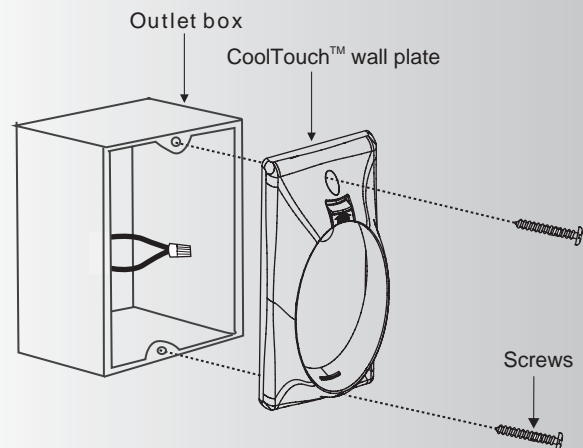

Fig. 25
Step 2. Install the CoolTouch™ wall plate to the existing wall outlet box with 2 screws provided. (Fig. 25)